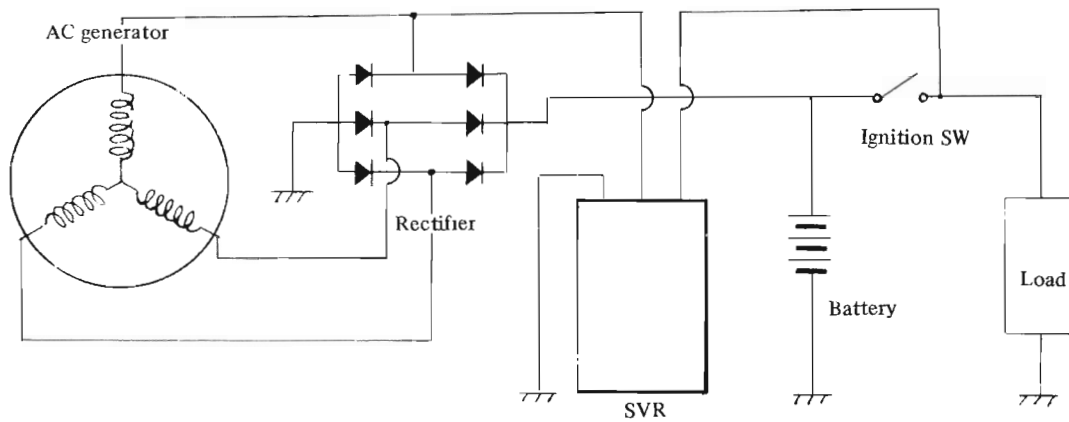

Fig. 5-17
- (1) The voltage regulator in the A series is called a silicon voltage regulator (SVR) and it works to control the terminal voltages of the AC generator under the set value ( $15.5V+0.5V$ ). The wiring diagram is shown in Fig. 5-17.